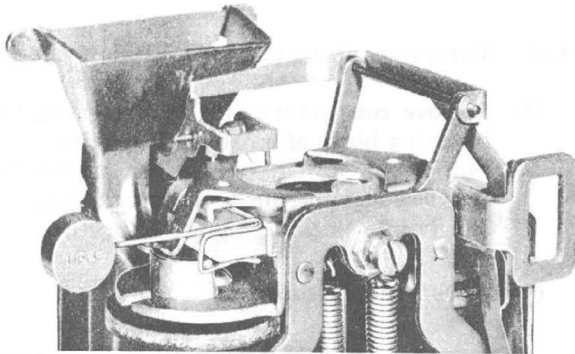

Fig. 8 — Bias Margin Test
- (1) To test in collect direction, place a 146A gauge on left side of armature (see Fig. 8).
- (2) Connect hand test set across line terminals.
- (3) Trip coin trigger (see 4.09).